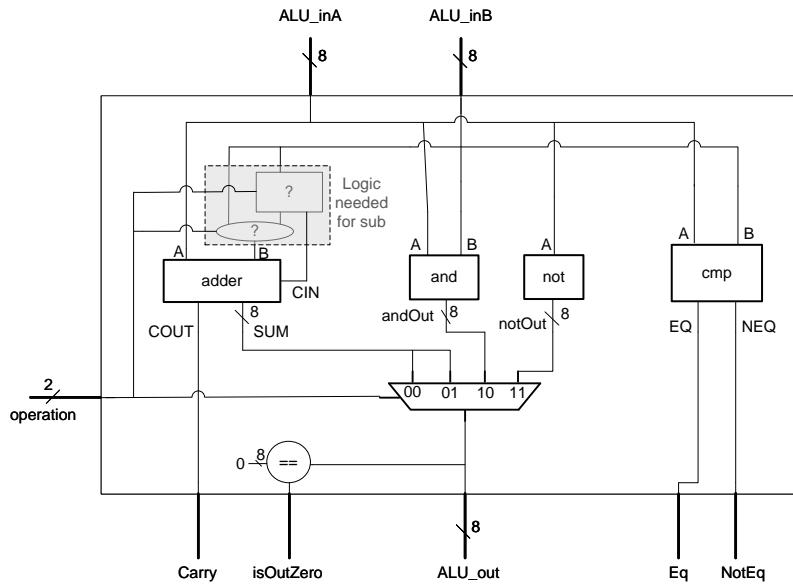

Figure 1: Block diagram of the ALU
The block diagram of the ALU is depicted in Figure 1. The interface was already presented in processor.pdf. There are four sub-components:
Implement the comparator *cmp* in a new file and name the entity “*cmp*”. The **inputs** of *cmp* are the two ALU data input operands while the outputs are two 1-bit signals: EQ and NEQ, as depicted in Figure 1.
1. Write in **dataflow** VHDL the implementation for the rest of two operations *AND* and *NOT* inside the file `alu_wRCA.vhdl`. The *AND* is performed between *ALU_inA* and *ALU_inB*, while *NOT* has only one input (*ALU_inA*), according to Figure 1.
2. The current implementation of the adder supports *addition* only. Extra logic is needed to support *subtraction*, as also depicted in Figure 1 in the grey box. Derive the functionality of this box and write **dataflow** and/or **structural** VHDL code in `alu_wRCA.vhdl`. Don't modify the design of your RCA. Use only one instance of the RCA as component to support both addition and subtraction. Hint: Based on 2's complement representation, subtraction is performed as an addition but we have to modify some of the inputs. What modification is needed? How do we select the correct input set for the RCA, provided that we know whether we are going to perform addition or subtraction? The latter is revealed by the *Operation* input (see Table 4)?
4. Integrate all the different units that you have implemented so far into one ALU using **structural** VHDL (using components), inside file `alu_wRCA.vhdl`. Use the block diagram of the ALU in Figure 1 to observe how the implemented components are connected.